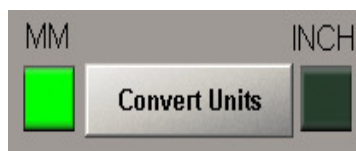

Figure 76 Convert Units
9. Click the **Convert Units** button ONLY ONCE (Figure 76)! More than once could mess up your machine. You will see a bunch of the values on the settings page change.